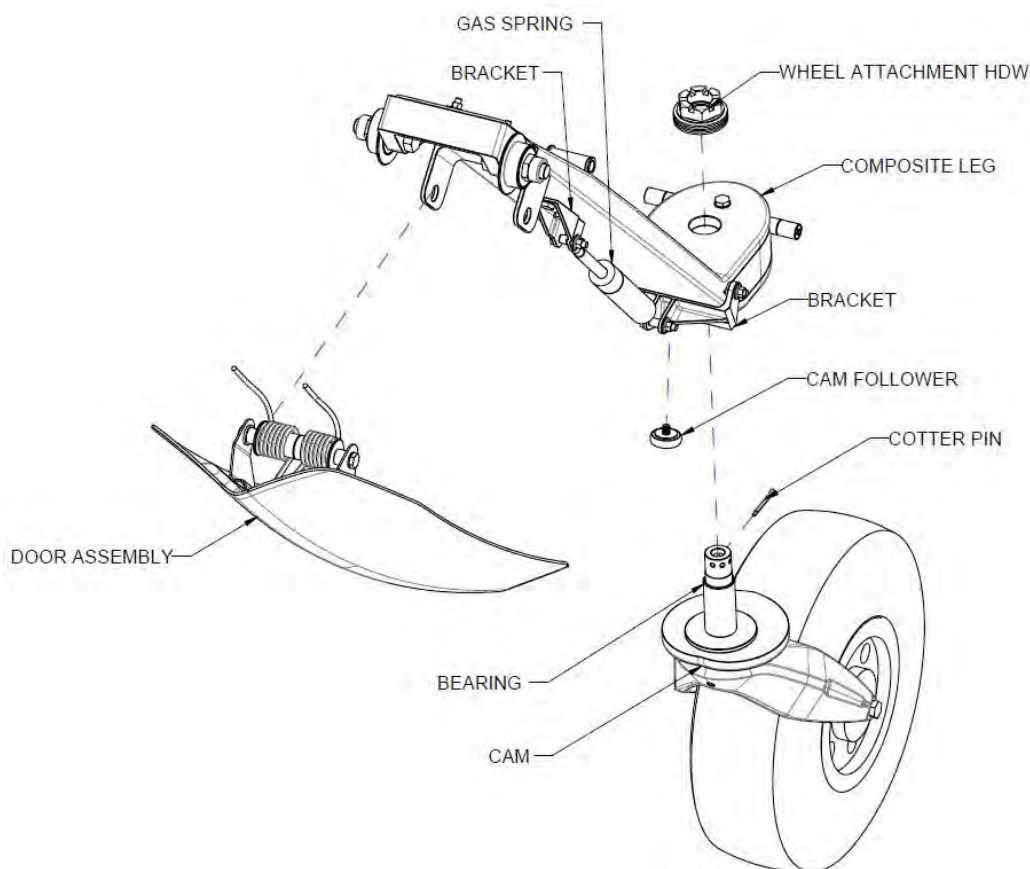

FIGURE 15-4
4. Inspect the proper function of the wheel rotation bearing (Figure 15-4) coupled with cam mechanism.